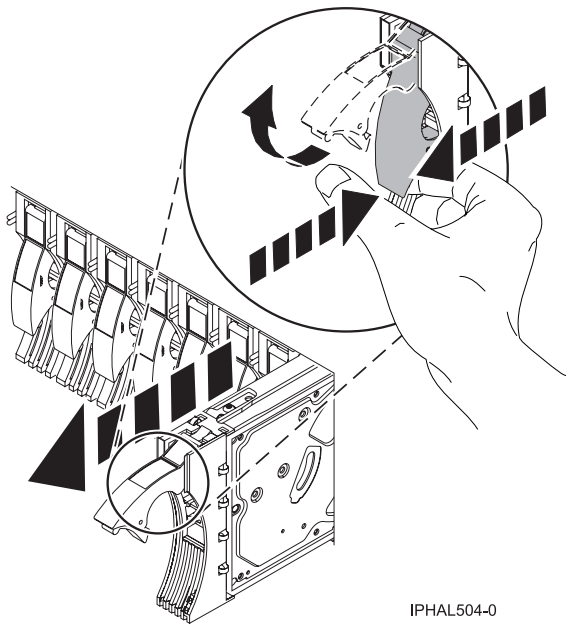

Figure 46. Removing a disk drive from a model
12. Unlock the disk drive handle by squeezing it and pulling it out toward you as shown in Figure 46.